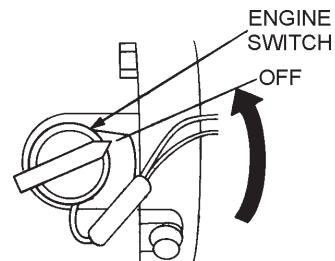

Figure 18. Engine ON/OFF Switch (OFF)
- After the engine **cools**, turn the engine ON/OFF switch to the “OFF” position (Figure 18).